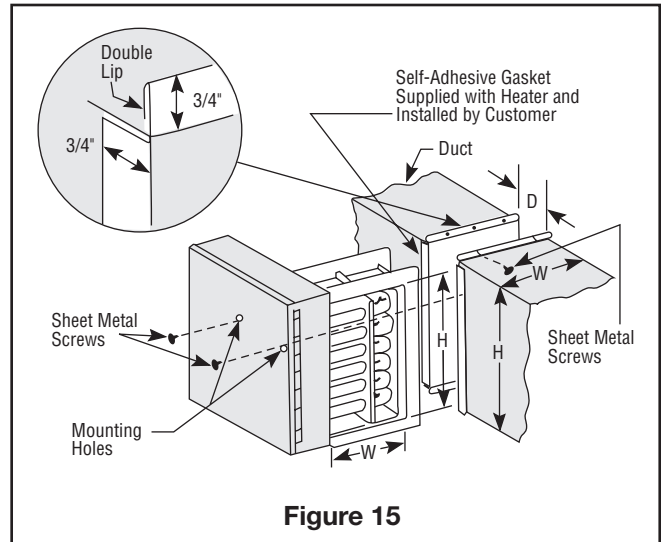

Figure 15
2. Form mounting flanges on cut edges of duct as shown in Figure 15.